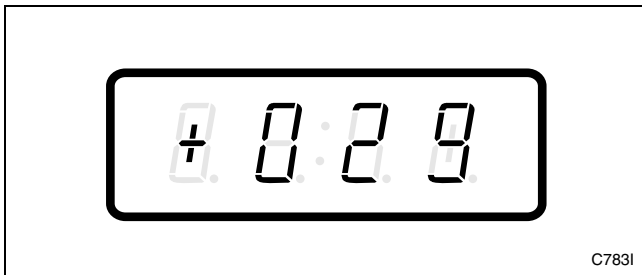

Figure 118
3. Press the DELICATES (+) or the COLD (-) keypad to scroll through the programmable options until “+029” appears in the VFD. Refer to *Figure 118*.